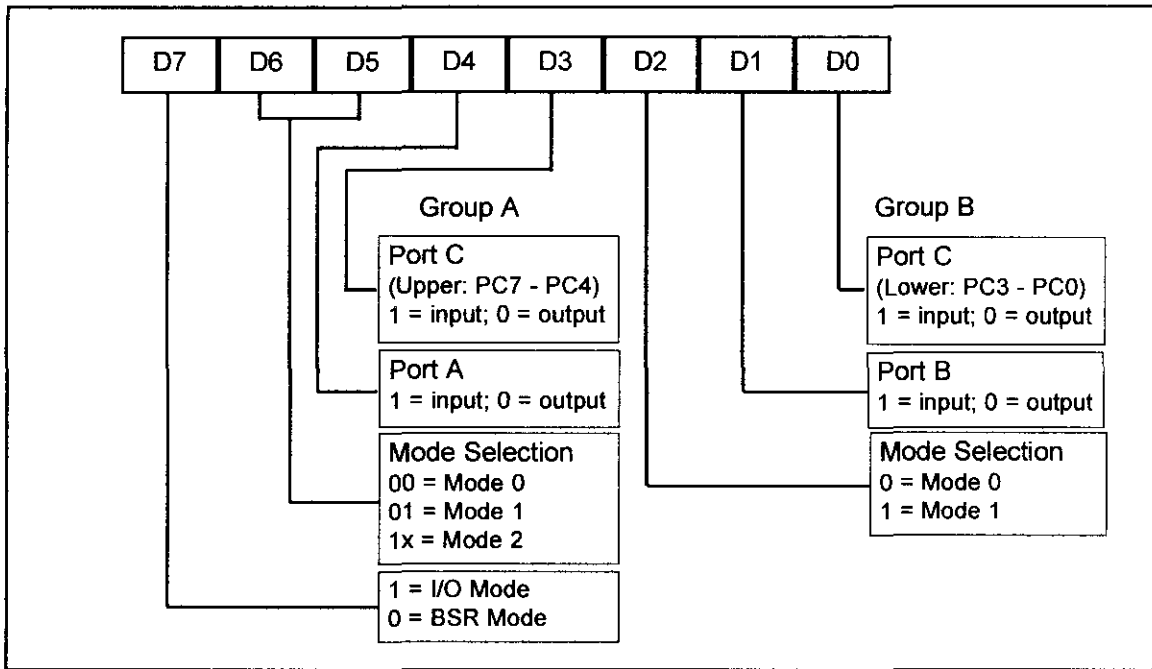

Figure 11-12. 8255 Control Word Format (I/O Mode)
Notice from Figure 11-12 that we must set  $D7 = 1$  to get the above I/O modes of 0, 1, and 2. If  $D7 = 0$ , we have BSR mode. In BSR (bit set/reset) mode, the bits of port C are programmed individually. This mode is also rarely used.
The 8255 chip is programmed in any of the above modes by sending a byte (Intel calls it control word) to the control register of the 8255. For example, to make ports A, B, and C output ports, we make  $D7 = 1$  according to Figure 11-12. To select simple I/O mode of 0, we need 1000 0000 as the control word. Similarly, to get PB as input, and PA and all of PC as output, we must have 1000 0010 or 82H for the control word. Examples 11-4, 11-5, and 11-6 demonstrate how the 8255 chip is programmed. Study these three examples in detail since they will be the basis of many lab assignments.
- (a) From Figure 11-12 we get the control word of 1000 0011 in binary or 83H.